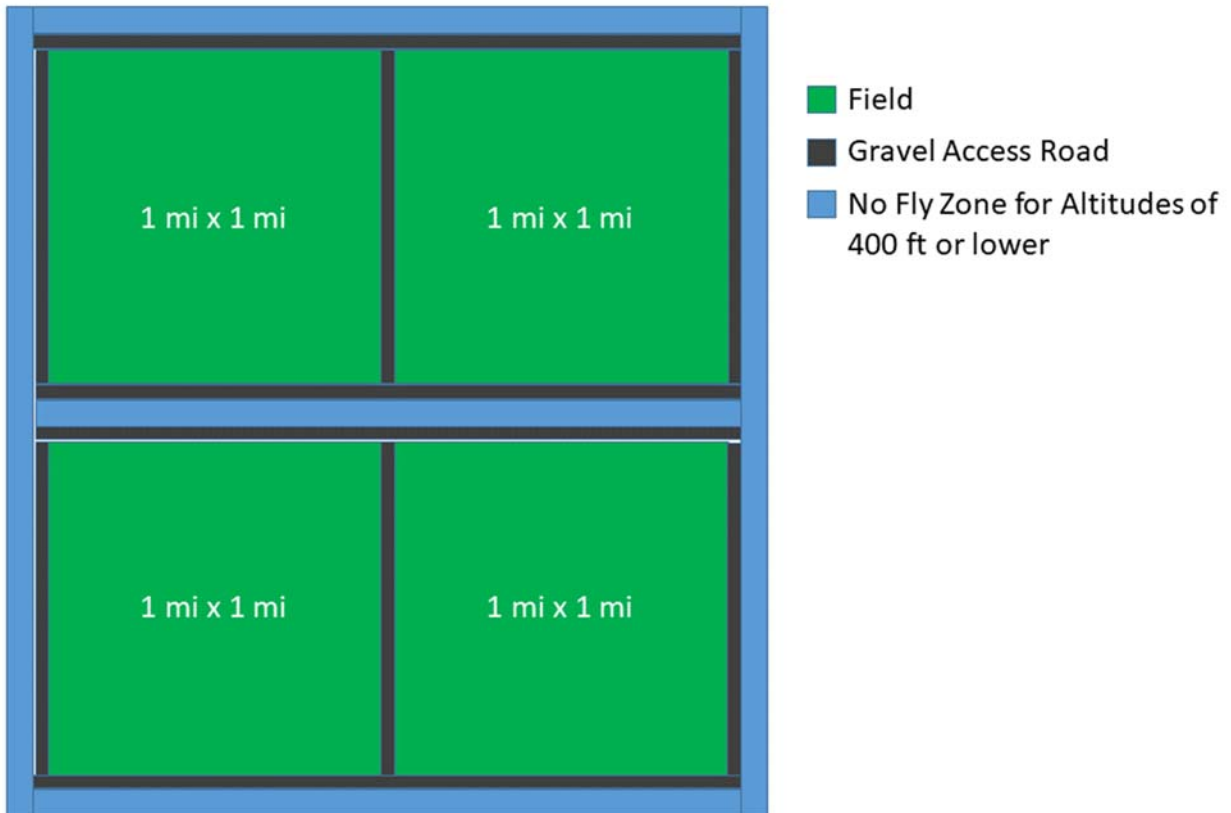

Figure 1: Field layout for FY18 National challenge (not to scale).
**Scenario:** *Based on your group's work using the company's test field, your company has decided to further study the case of whether Part 107 regulations are restricting precision agriculture. Based on company research of prospective users of your system, a typical field layout has been created (see Fig. 1). The layout includes four 1 mile by 1 mile (640 acres) fields of corn that are surrounded by gravel access roads. To represent the possibility of heavily traveled public roads, no fly zones for certain altitudes are included in the layout. Your group must design unmanned aircraft that perform better than the DJI Agras MG-1 at spraying and perform better than the eBee SQ at surveying.*
**Field:** *As mentioned earlier, the layout your group is using contains four corn fields that are 1 mile by 1 mile (640 acres) creating a total of 2560 acres. Gravel access roads surround each field. The width of each gravel access road is 14.7 ft with an additional 3.3 ft on either side for drainage. Therefore, the total width of the gravel access roads are 21.3 ft. Aircraft must be able to takeoff and land from the gravel access roads, so the maximum wingspan is 14 ft. Aircraft may fly over the gravel access roads, but access over the no fly regions is restricted. Aircraft that fly at an altitude of 400 ft above ground level or lower may not fly in the no fly zone. If the aircraft can fly at an altitude greater than 400 ft above ground level, it may cross the no fly zone. The width of the no fly zone is 100 ft (30.5 m). Design your system using the layout provided in Fig. 1. Note that the figure is not to scale.*